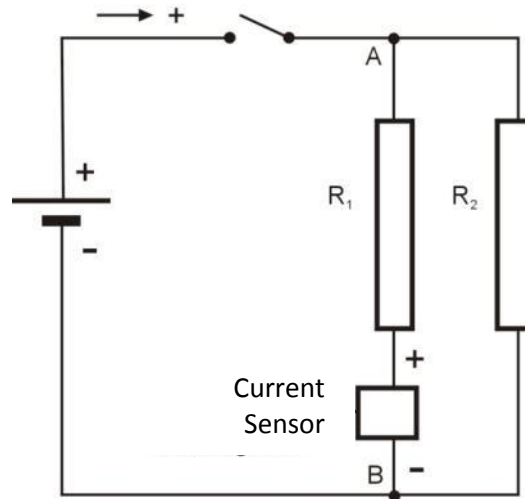

Figure 4
6. Rearrange the circuit to measure the current that flows through resistor R_1 : Remove the Current sensor, connect the negative terminal of the battery directly to point B and connect the Current sensor between resistor R_1 and point B (see Figure 4).